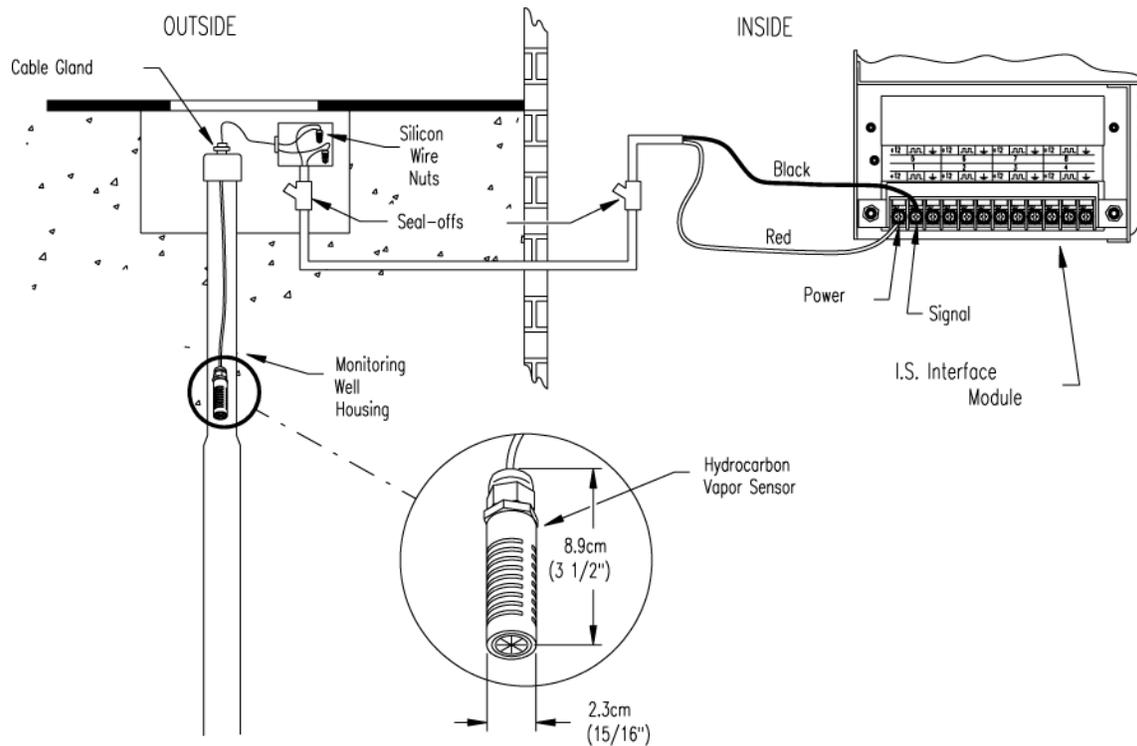

Figure 13-17 Hydrocarbon Vapor Sensor Installation
- Review Figure 13-17 on page 64.